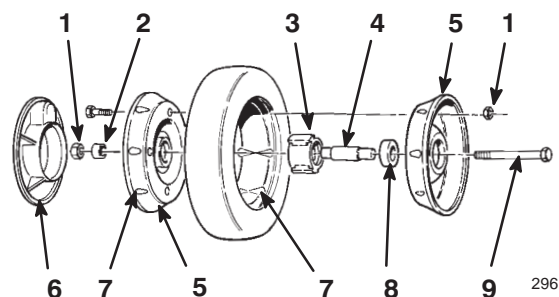

Figure 29
- Remove the bolt, the wheel spacer, and the locknut mounting the wheel to the pivot arm (Fig. 29).
- Bearing (2)
4. Separate the wheel halves from the tire by removing four bolts and four locknuts (Fig. 29).
Note: If you remove the bearings from the bearing/hub assembly, remove them by pressing on the bearing spacer (Fig. 29).
1. Position the tire onto one wheel half, aligning the lugs on each (Fig. 29).
2. Place the bearing/hub assembly into the center hole of the wheel half. Ensure that the legs of the hub are positioned over the flange of the hole (Fig. 29).
3. Place the other wheel half onto the bearing/hub assembly, aligning the wheel and the tire lugs and the mounting holes (Fig. 29).
4. Using two 1/4–20 x 1.50 in. (6 x 38 mm) fully threaded bolts and non-locking nuts, loosely secure the wheel halves together. Mount the bolts in the opposing holes (Fig. 29).
5. Check the alignment of all parts and tighten the bolts, alternating from side to side for a uniform fit, until the wheel halves are drawn together (Fig. 29).
6. Install the two bolts and two locknuts previously removed in the remaining holes in the wheel halves and tighten. Remove the two long bolts and replace them with two bolts and two locknuts (Fig. 29).
7. Install the wheel to the pivot arm with the bolts, a spacer, and a locknut. Ensure that the spacer is positioned between the wheel hub and the pivot arm (Fig. 29).